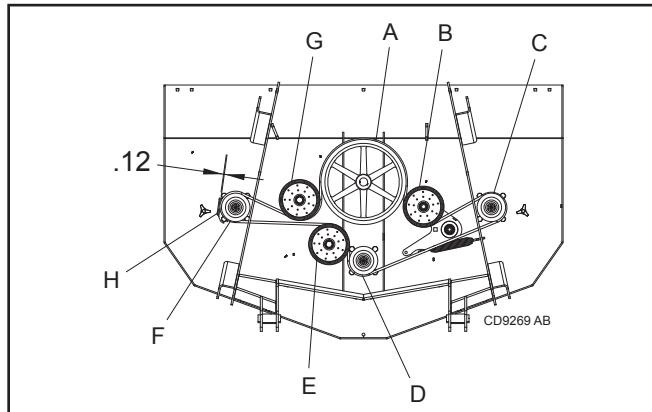

Figure 13. Belt Routing for TBW15.40 Wing Deck, TBW12.40 Rear Deck
4. Adjust belt guide G to provide 1/16" to 1/8" clearance from belt for decks in Figures 13 & 14. Tighten bolt to 85 ft-lbs.
- For decks in Figures 13 & 14, route belt around backside idler G. Slide belt under drive sheave A for all decks.